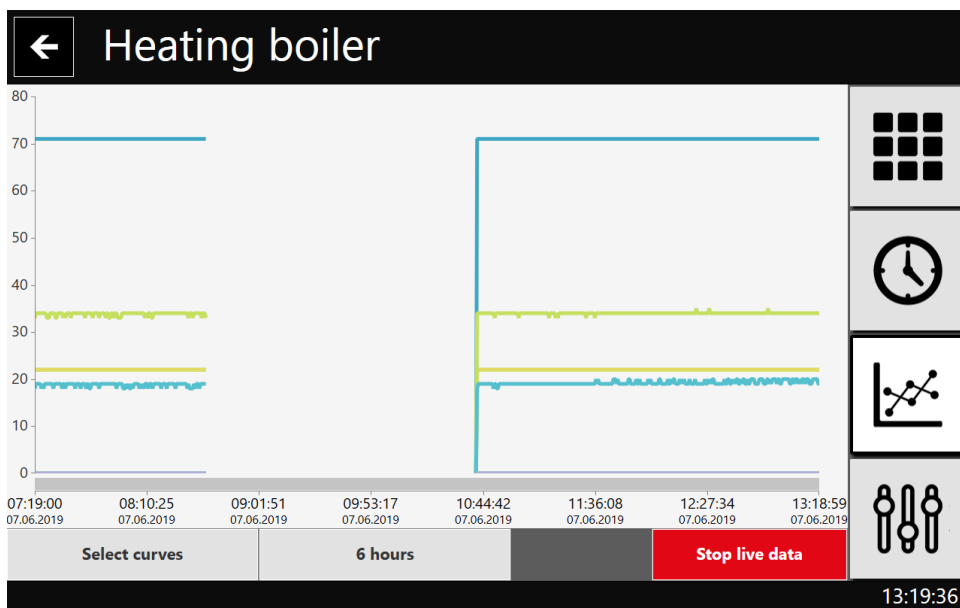

Figure 21
- If the flue connection is longer as set forth in the instructions, the installer must use a reducing element (from  $\varnothing 80$  female connection to  $\varnothing 130$  female connection) immediately behind the fan, and the connection must be made with a pipe  $\varnothing 130$  (see **figure 21**).